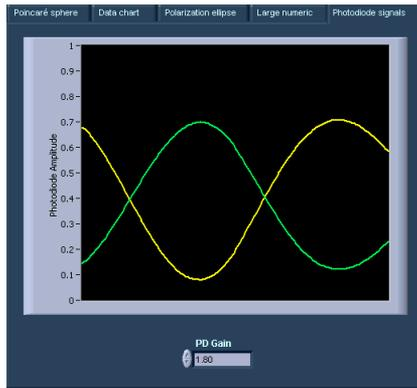

Figure 12: Photodiode signals
- **PHOTODIODE SIGNALS** - Graphically displays the two photodiode signals (refer to Figure 12 and related text).
Photodiode output signals will vary depending on the intensity of light incident on the photodiodes. The photodiode gain must be set so that “low light” and “saturation” conditions do not exist. To set the gain value, go to the main screen and click the ‘Photodiode signals’ tab. Select a value that produces plotted signals that max out at about 0.7 or 0.8 on the Y axis (refer to Figure 12 and related text). The gain should be adjusted every time the external light source varies.